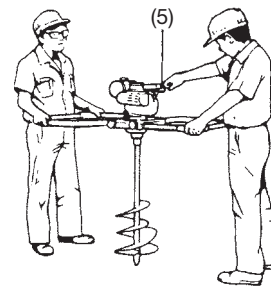

Fig. 5
- 5) Operator **at starter handle side pulls recoil starter briskly** taking care to keep the handle in your grasp and not allowing it to snap back. (Fig. 5)